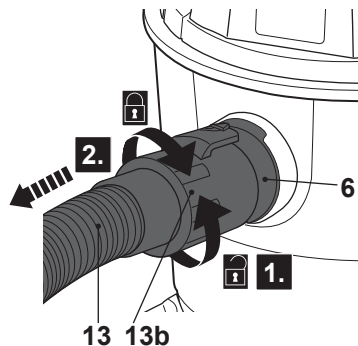

Fig. 11
- > Rotate the hose connector (13b) anticlockwise and pull it from the air inlet (6) to disconnect the hose (13) after use (Fig. 11).